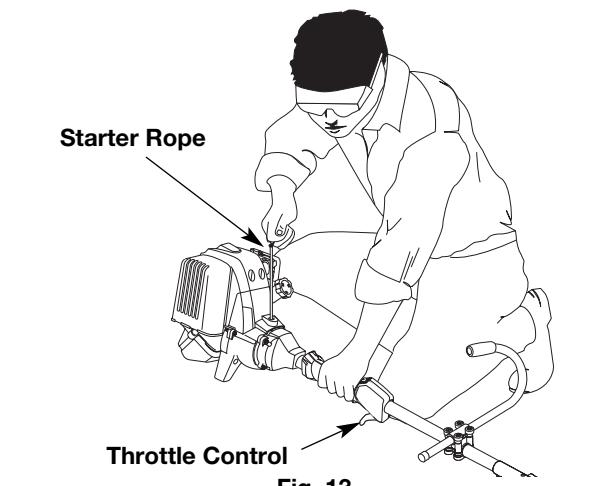

Fig. 13
4. With the unit in the starting position, **do not squeeze the throttle control** (Fig. 13). Pull the starter rope out a short distance, until you feel some resistance. This is usually around 2-4 inches. Then pull the rope smoothly and briskly. Repeat this 5 times. The engine should start.